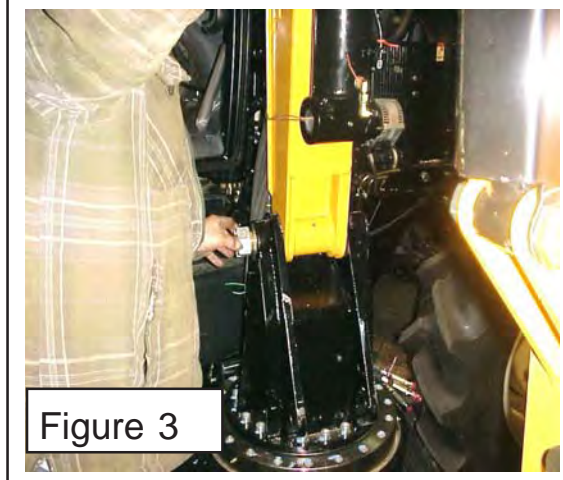

Figure 3
2. The Boom to Turret Pivot pin will need to be removed. Extend the boom outward with the head resting on the ground and boom extended. Connect a hoist to the boom lifting points for support. Remove the boom cylinder from the turret (rod end of cylinder). Loosen the nut on the boom pivot lift pin. Remove the boom pin, it may require you to lift or lower the boom some to remove pressure on pin. With pin remove swing boom to the rear far enough that it is not above the turret. It will not require the hydraulic lines to be disconnected. Using capable support stands under boom to support it while performing repairs, do not work under boom with only the hoist supporting it. (See Figure 3)
4. Turn turret back over on bench (See Figure 3). There are two rows of Allen head bolts around base of turret, **NEVER REMOVE ANY BOLTS** from turret unless boom has been disconnected and supported away from turret. Hydraulic Swing cylinders must be disconnected from cylinder turret link.